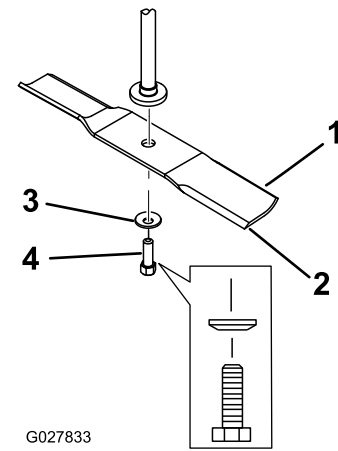

Figure 53
2. Remove the blade bolt, curved washer, and blade from the spindle shaft (Figure 53).
1. Install the blade onto the spindle shaft (Figure 53).
2. Install the curved washer (cupped side toward the blade) and the blade bolt (Figure 53).